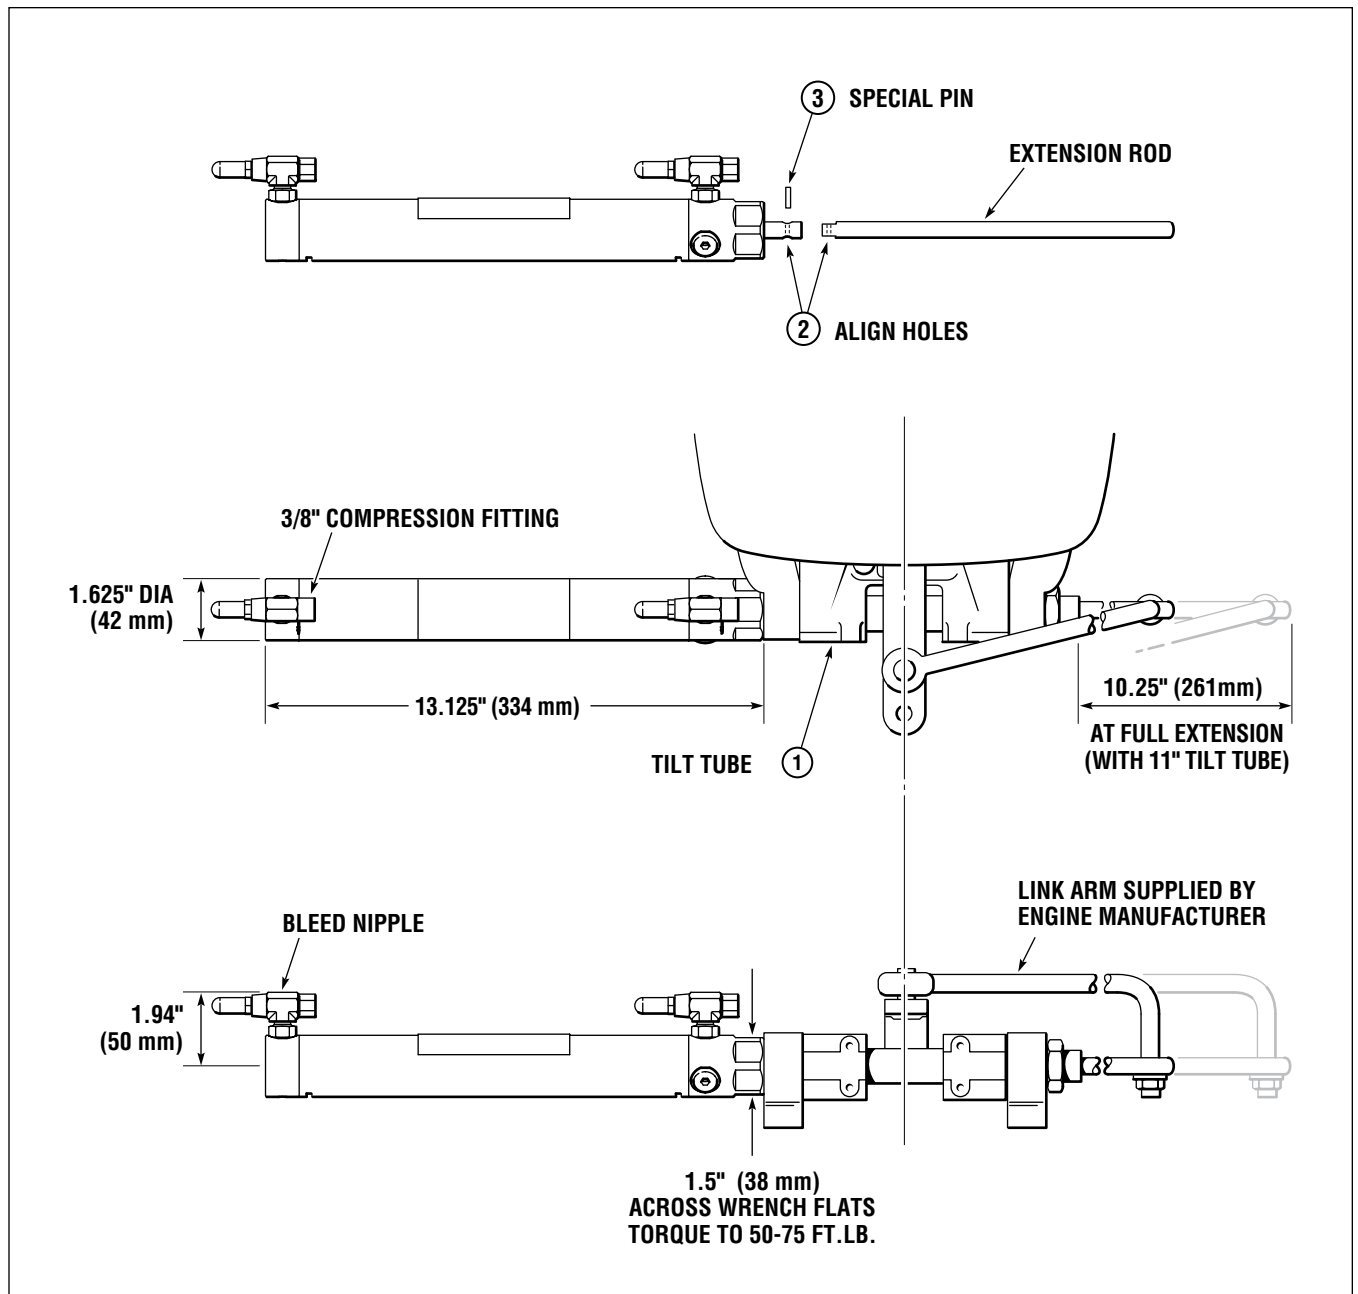

Figure 1. HC5370-3 SeaStar Side Mount Cylinder shown, BayStar similar.
1. Slide well greased extension rod into thoroughly cleaned and rust free engine steering/tilt tube. (item 1, figure 1).
2. Attach the cylinder rod end to the extension rod by inserting it into the mating hole of the extension rod (Item 2, figure 1).
3. Align holes in cylinder rod & extension rod, then insert special pin (item 3, figure 1) through the hole joining both rods together. If the holes do not line up properly, rotate the extension rod 180°.